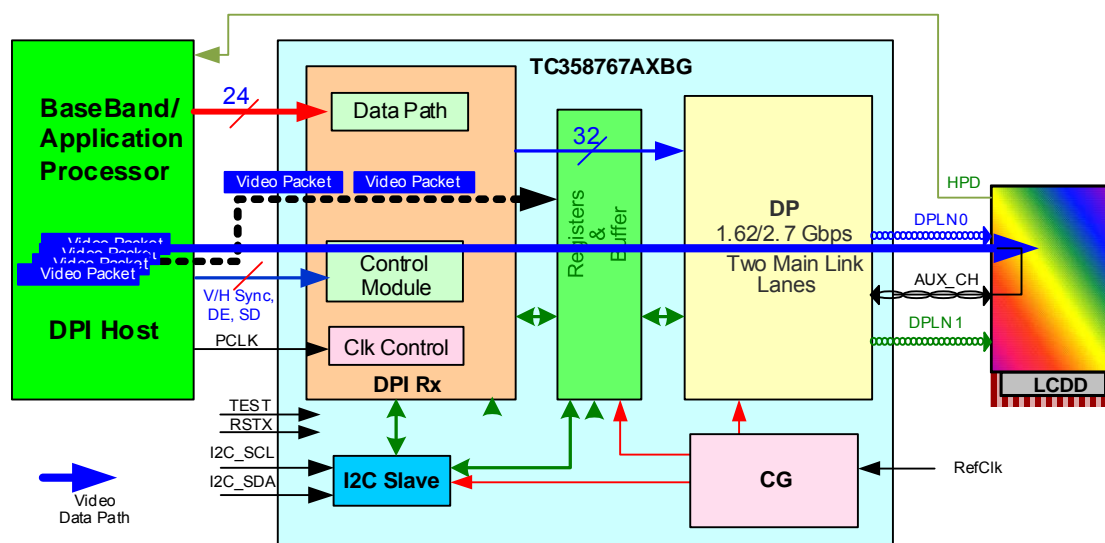

Figure 1.2 System Overview with TC358767AXBG in MODE_P21 Configuration
- **Mode_P21:** A system configuration where TC358767AXBG may typically be used is shown in Figure 1.2. This is similar to the Mode_S21 except that the video stream source is from DPI Host. In this configuration, the TC358767AXBG can support displays with resolution up to WUXGA (1920×1200) at 24bit, 60 fps.